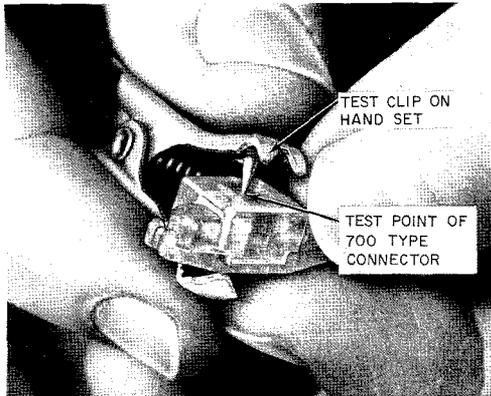

Fig. 2—Contacting Joint—IMPORTANT—Reseal per 2.01(b)(3)
(3) A test point for contacting the joint without piercing the conductor insulation. This test point is covered with a thin plastic membrane which is punctured with the test pick to make contact with the back side of the metallic insert as shown in Fig. 2.